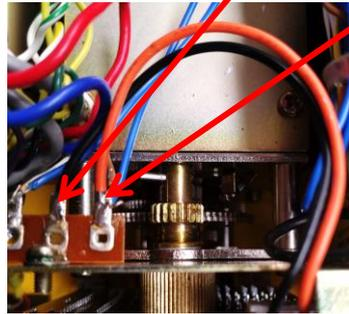

Figure 14
- Solder the two prepared cables (**black** = Gnd and **orange** = +13.5V) of the display module to the soldering points as shown in Figure 14.